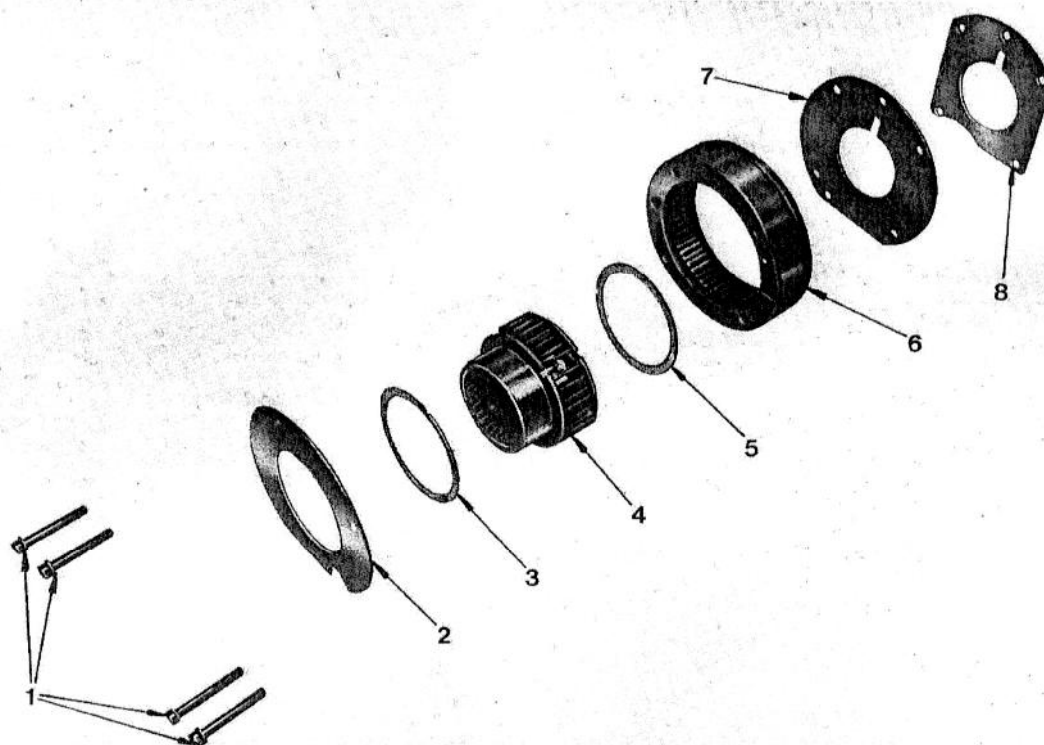

FIG. 7
1. (Fig. 7) Remove the four bolts and spring washers (1) which secure the unit to the rear of the transmission housing.
2. Remove the rear cover plate (2) thrust washer (3) planet pinion carrier assembly (4), planet ring gear (5), thrust washer (6), front cover plate (7) and shim (8).